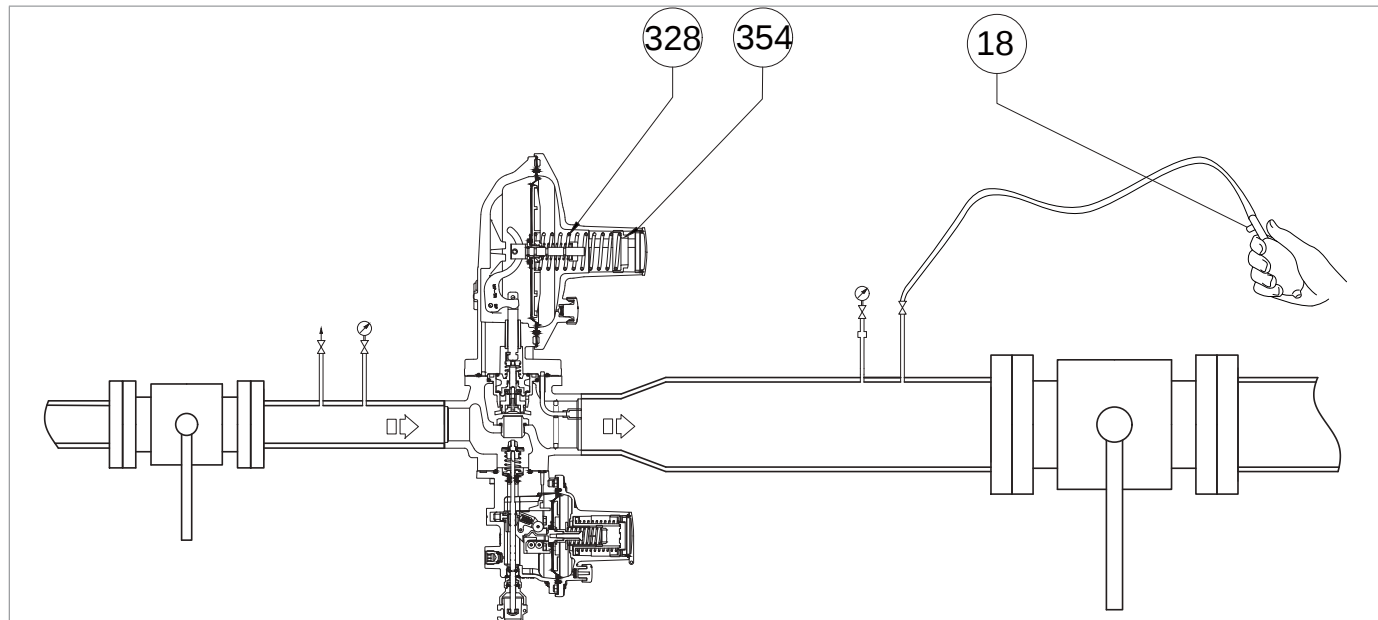
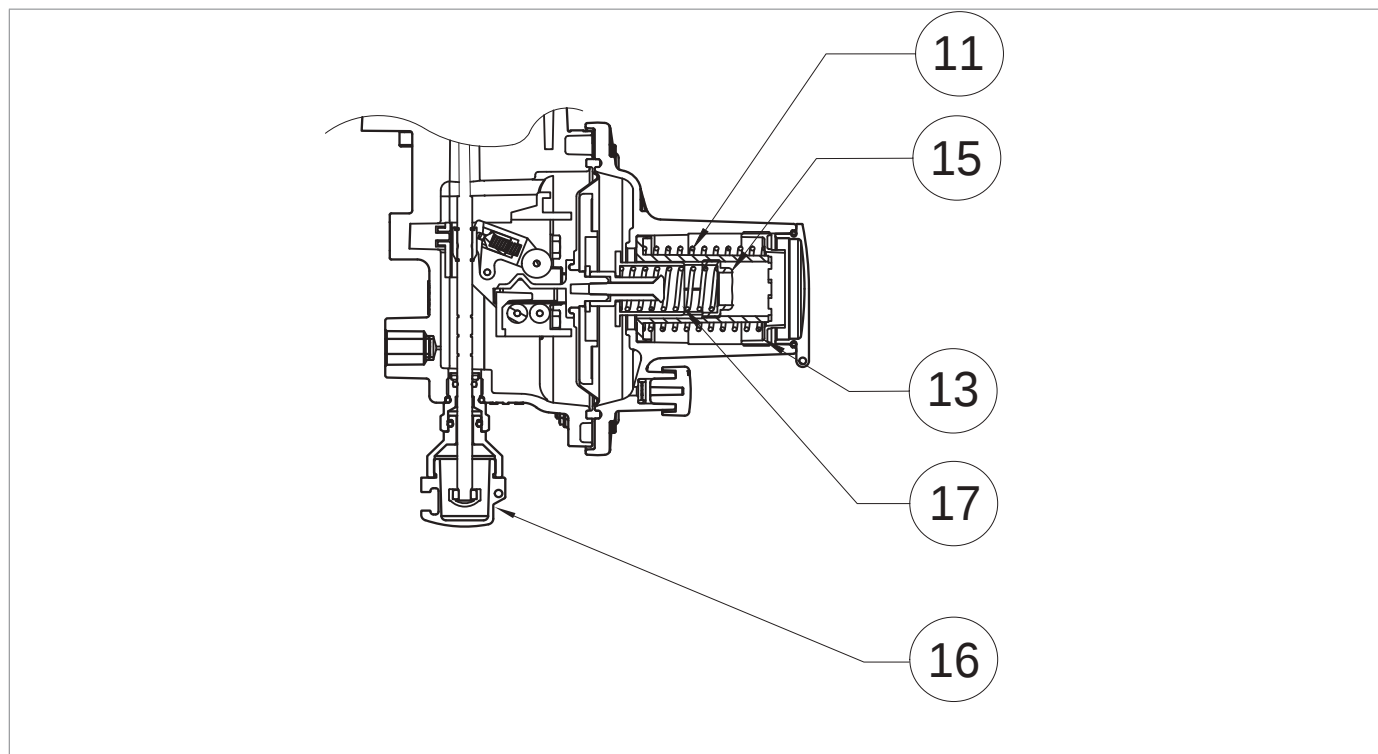
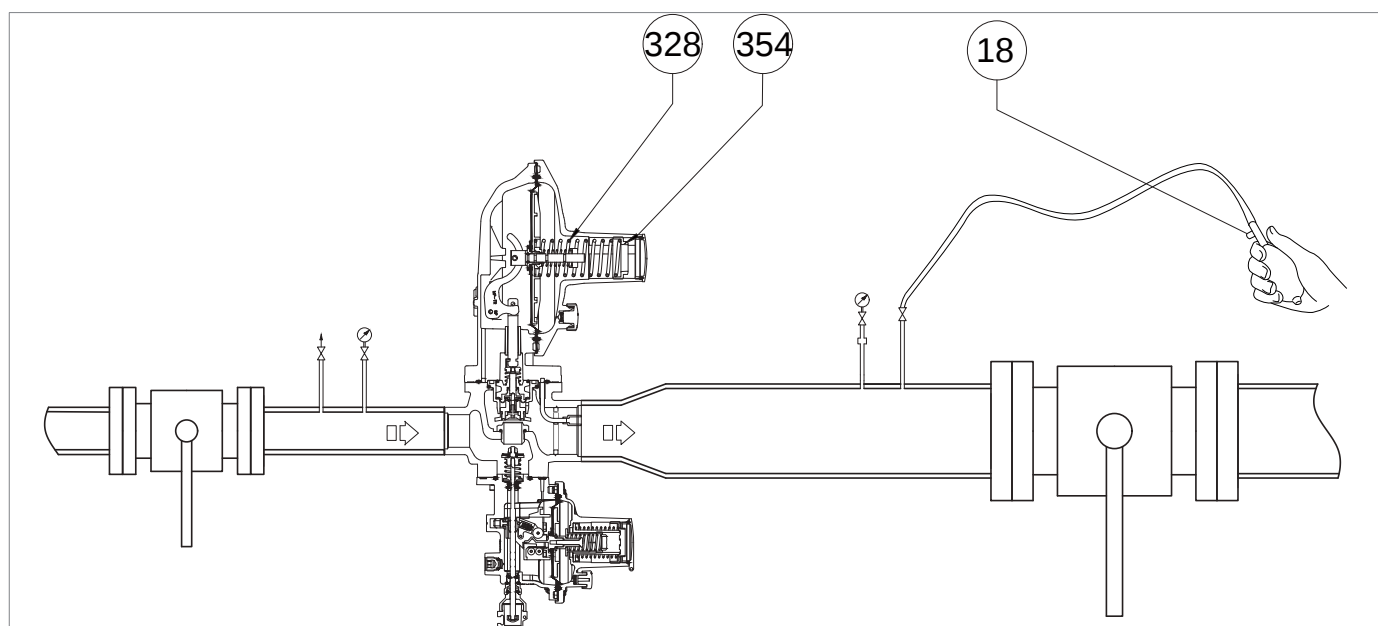

Fig. 8.22. Pressurising with external source for incorporated LA slam-shut valve
Fig. 8.20. Calibration of pressure switch for LA slam-shut valve
Fig. 8.21. Pressurising with external source for incorporated LA slam-shut valve
Increase the downstream pressure to the tripping value of the slam-shut valve, connecting an external pressure source to the bleed cock (Fig. 8.20, ref. 6) placed on the downstream pipe, making sure to open an additional bleed cock (Fig. 8.22, ref. 18).
1	 NOTICE! Check the pressure referring to the downstream pressure gauge (Fig. 8.20, ref. 5). If the slam-shut valve: • trips before the expected pressure value: screw in (clockwise) the adjustment ring nut (13) so as to further compress the spring (11); • does not trip at the expected pressure value: unscrew (anti-clockwise) the adjustment ring nut (13) so as to relieve the spring (11).
2	Decrease the pressure of the downstream section by opening the additional bleed cock (Fig. 8.22, ref. 18) to bring it up to the calibration value of the main regulator.
3	Close the additional bleed cock (Fig. 8.22, ref. 18).
6	Disconnect the external pressure source from the bleed cock (Fig. 8.20, ref. 6).
1	Partially open the bleed cock (Fig. 8.20, ref. 6) to the atmosphere and keep it open for the next steps.
2	Turn the adjustment ring nut (Fig. 8.20, ref. 3) of the regulator anti-clockwise to decrease the downstream pressure (Pd) to the minimum pressure required for tripping of the slam-shut valve.
3	If necessary, remove the closing cap (Fig. 8.22, ref. 354) together with the adjustment ring nut and remove the regulation spring (Fig. 8.22, ref. 328). ! NOTICE! Check the tripping pressure value of the slam-shut valve indicated on the downstream pressure gauge (Fig. 8.20, ref. 5).
4	If the slam-shut valve: - trips before the expected pressure value, unscrew (anticlockwise) the adjustment ring nut (Fig. 8.21, ref. 15), to relieve the spring (Fig. 8.21, ref. 17); - does not trip at the expected pressure value, screw in (clockwise) the adjustment ring nut (Fig. 8.21, ref. 15) to further compress the spring (Fig. 8.21, ref. 17).
5	After having checked that the slam-shut valve trips at the preset value, proceed as follows: - Close the air vent valve (Fig. 8.20, ref. 6) - Position the regulation spring (fig. 8.21, ref. 328), the end cap (Fig. 8.22, ref. 354), the adjustment ring nut (Fig. 8.20, ref. 3) - Slowly open the upstream shut-off valve (V1) until the downstream pressure value (Pd) reaches the calibration value of the regulator, referring to the downstream pressure gauge (Fig. 8.20, ref. 5) - Close the upstream shut-off valve (V1) - Slowly and partially open the air vent valve (Fig. 8.20, ref. 6) to decrease the downstream pressure referring to the downstream pressure gauge (Fig. 8.20, ref. 5) until it reaches the minimum pressure tripping value - Check the minimum pressure spring for proper calibration by repeating steps 2-3-4 at least three times - Calibrate the main regulator referring to par. "8.5 - Regulator commissioning procedure"
6	Open the slam-shut valve by acting on the reset knob (Fig. 8.21, ref. 16) and keep it open manually.
7	Turn the adjustment ring nut clockwise (Fig. 8.20, ref. 3) to increase the downstream pressure to the regulator's setpoint.
9	Close the bleed cock (Fig. 8.20, ref. 6).